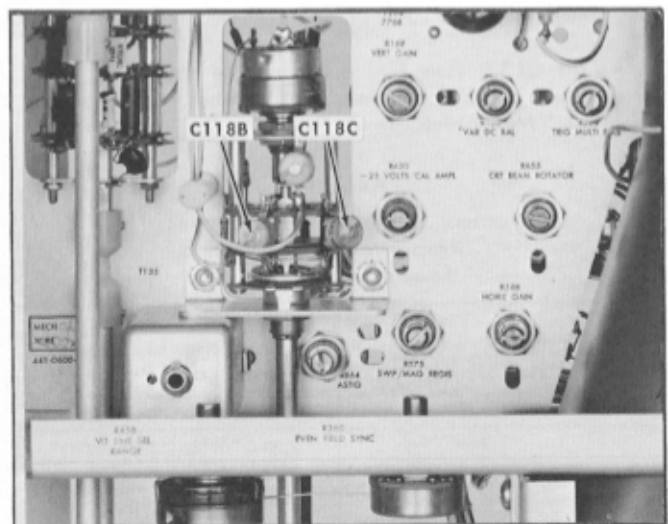

Fig. 6-35. Location of C118B and C118C adjustments.
- e. Adjust C118B (see Fig. 6-35) to obtain flat-frequency response from 500 kHz to 5 MHz within +0%, -1%.
- e. Adjust C118C (see Fig. 6-35) to obtain flat-frequency response from 500 kHz to 5 MHz within +0%, -1%.